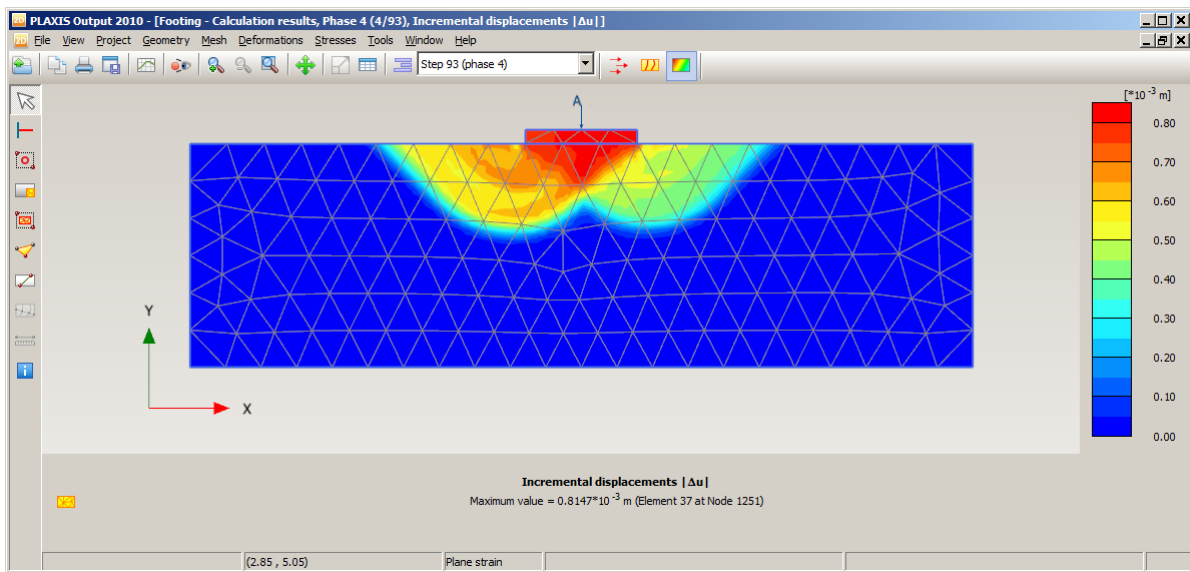

Figure 18: Shadings of displacement increments after phase 4
- From the Displacements menu in the Output program now select *Incremental displacements* and then the option $|\Delta u|$. Display the incremental displacements as contours or shadings. The plot clearly shows a failure mechanism (see Figure 18).